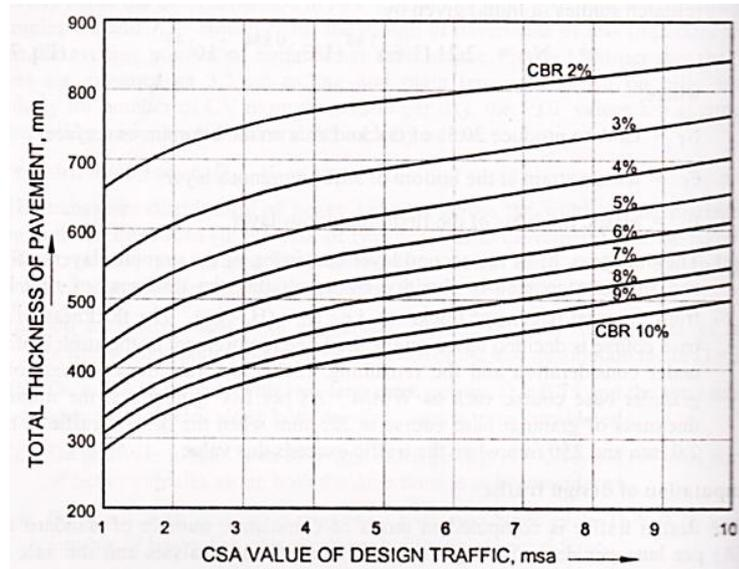

Fig.1. CBR design chart for determination of total pavement thickness for traffic with CSA of 1.0 to 10 msa
- Use figure 1, table no. 1 for calculating composition of pavement component (as per IRC guidelines).